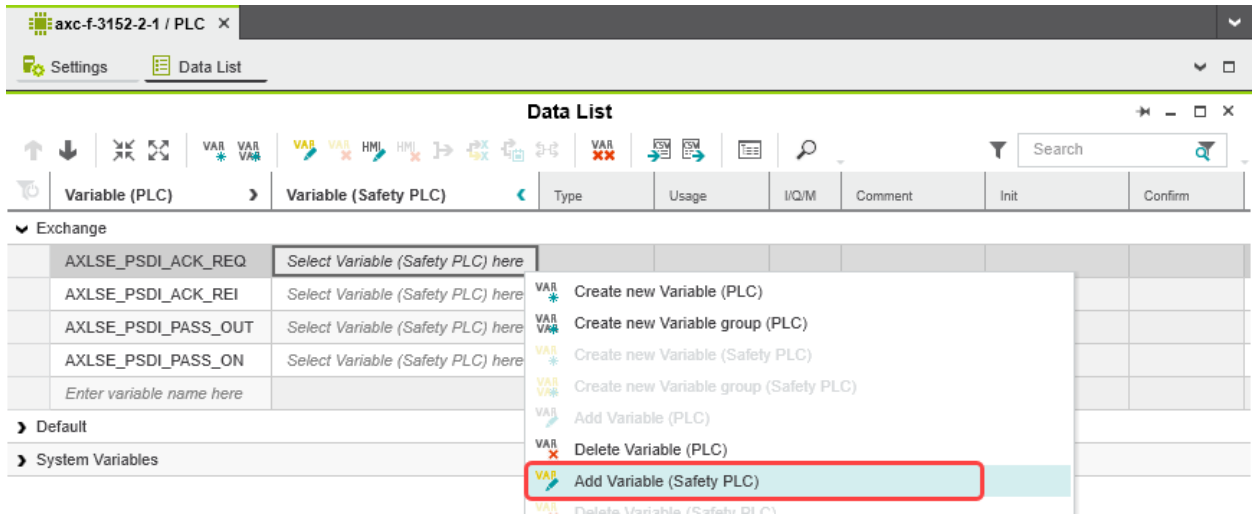

Figure 6-34 “Add Variable (Safety PLC)” context menu
- In the “Variable (Safety PLC)” column, select “Add Variable (Safety PLC)” in the context menu for each variable you created earlier in turn (see Figure 6-34).